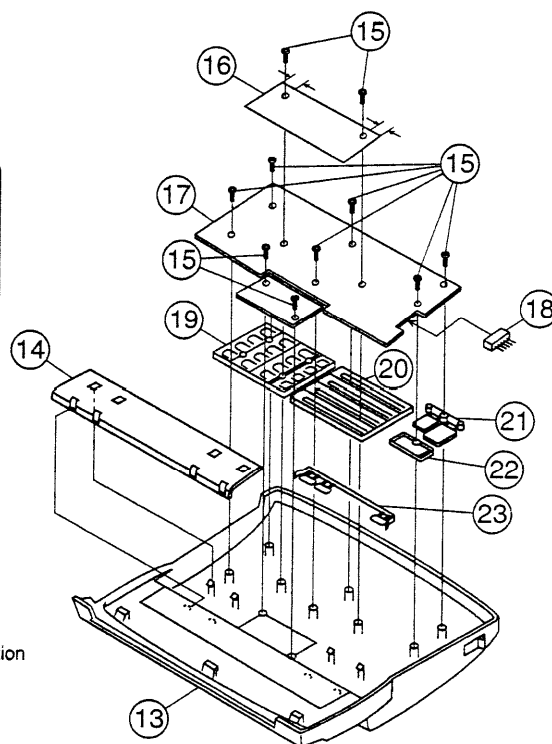

Fig. 3
Parts list (Fig. 3)
- When replacing the decoration panel ⑫ in Fig. 3, note the following items.
- When assembling hopper guides L ⑩ and R ⑪, note the following items.
- Put two ribs ③ of each of hopper guides ⑩ and ⑪ under the upper cabinet. (Refer to the enlarged view.)
- When inserting pinion ⑧, move the hopper guides ⑩ and ⑪ to the inside, insert pinion ⑧ and fix it with screw ⑦.
- Move hopper guide R ⑪ at the rate of about 10mm/sec in the direction of arrows ④ and ⑤ by using a tension gauge to check that the load is in the range of 500g to 150g.
- When assembling panel PWB ⑰ in Fig. 3, note the following items.
- When assembling PWB protection sheet ⑮ in Fig. 3, place the longer margin on the right side.
- When fixing 10 screws ⑮, first fix four screws in the sequence of [1] to [4] shown in the figure, then fix the six remaining screws.
- When assembling upper cabinet ass'y ② in Fig. 3, insert three ribs ③ under the original guide upper ass'y.